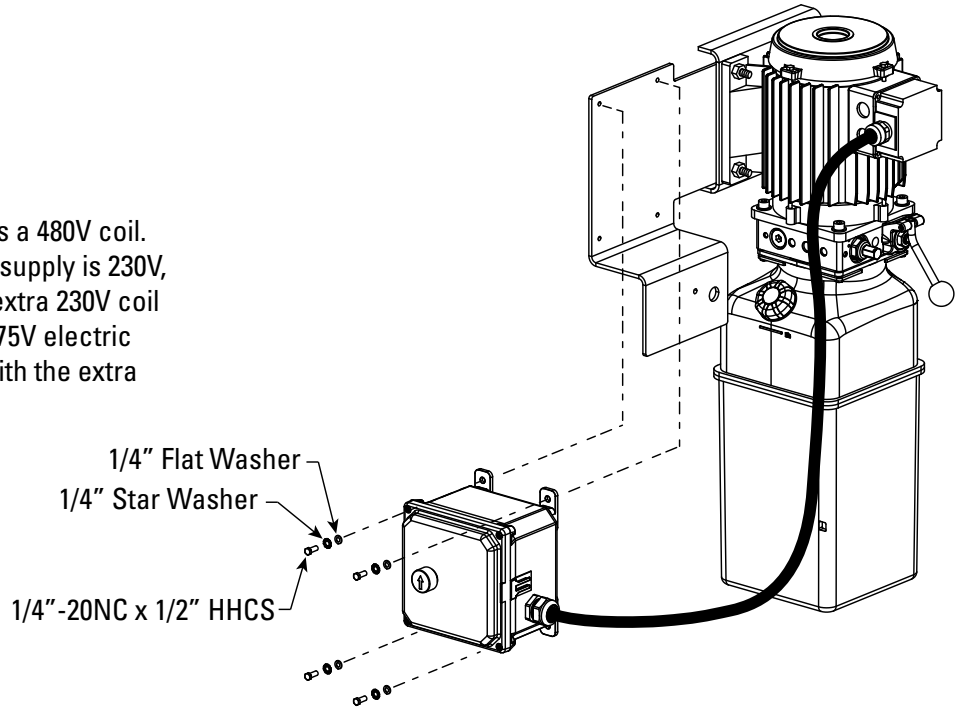

Fig. 21a
- A. Attach Control Box to Bracket using (4) 1/4"-20NC x 1/2" HHCS, (4) 1/4" Flat Washers, and (4) 1/4" Star Washers. Fig. 21a.